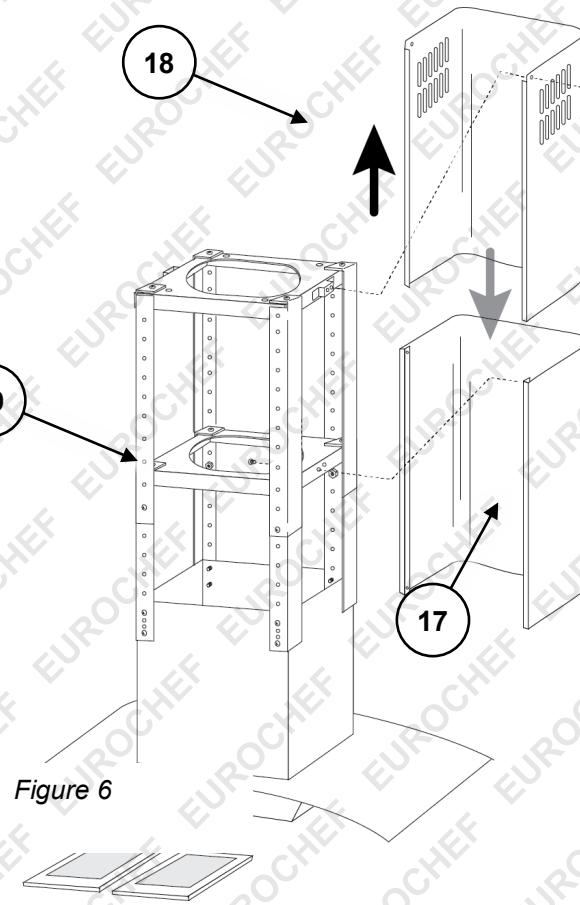

Figure 6
- Refer to *Figure 6*. Place the flue extension cover pieces (18) inside the flue cover pieces (17) – these are left loose so they can pulled up and into position later.
- Install the flue cover (17) by placing each piece on either side of the flue frame. The bottom edges of the flue cover fit into the space around the hood of the exhaust unit. Screw the flue cover pieces to the flue support bracket using 4 #8 self-tapping screws (19).
- Gently pull the extension flue cover pieces up from the flue cover until they reach the ceiling. Secure them to the ceiling mounting bracket using 4 #8 self tapping screws (19).